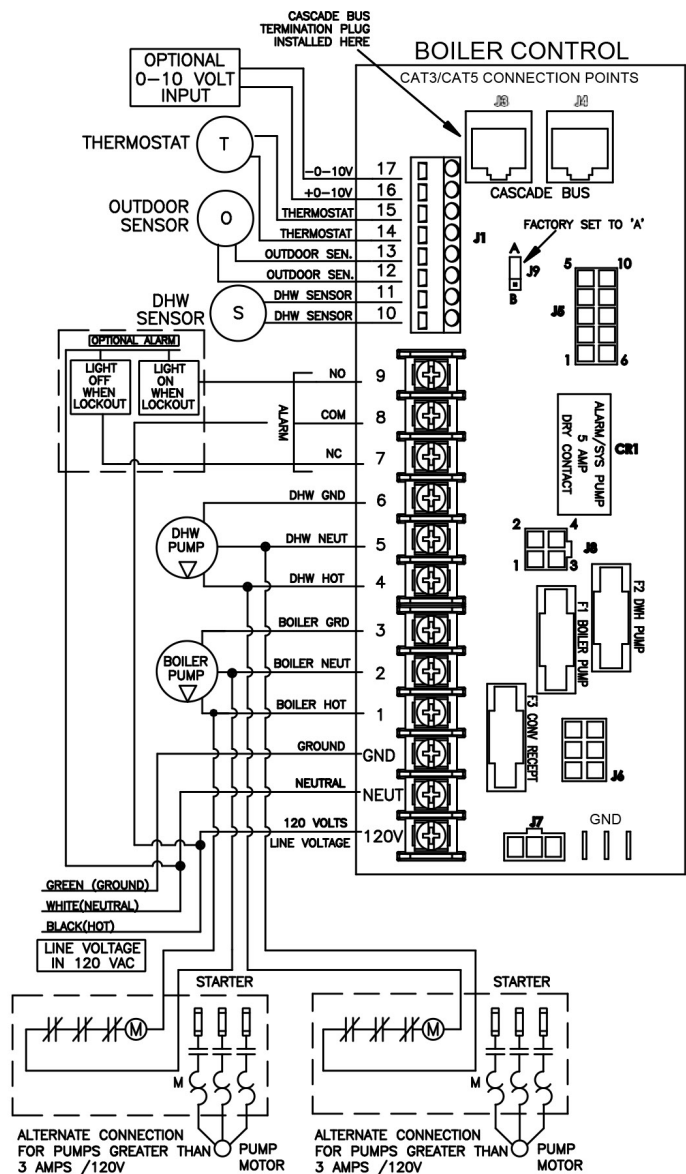

Figure 22 - Control Wiring
NOTE: A termination plug is included in the CAT 3 / CAT 5 Bus Connection Point, labeled J3 in Figure 22. DO NOT REMOVE THIS
1. Connect the incoming power wiring to the line voltage terminal strip in the electrical junction box at terminals 120V, Neutral, Ground (shown in Figure 22).
3. Connect the boiler pump as shown in Figure 22 to the terminals marked 1 – (HOT), 2 – (NEUT), and 3 – (GND). The connections shown are suitable for a maximum continuous pump draw of 3 amps at 120 volts. If the pump requires more current or voltage than the 120 volts supplied, an external motor starter or contactor will be required.
The control includes a dry contact alarm output. This is an SPDT circuit, rated at 5 amps at 120 volts. This contact can be used to activate an alarm light or bell or notify a building management system if the boiler goes into a lockout condition. The circuit between the ALARM COM and NC terminals is closed during normal operation and the circuit between ALARM COM and NO is open during normal operation. The connections depicted in Figure 22 show two 120 volt lights connected to the alarm terminals. One light will be on when the boiler is in normal mode and the other light will be on when the boiler is in lockout mode.
1. Connect the room thermostat to the terminals marked THERMOSTAT in the electrical junction box (see Figures 22 and 25). Alternately, any dry contact closure across these terminals will cause the boiler to run. Take caution to ensure neither of the terminals becomes connected to ground.
2. Connect the indirect sensor (7250P-325) to the terminals marked DHW SENSOR (shown in Figures 22 and 25) in the electrical junction box.
2. Connect a building management system or other auxiliary control signal to the terminals marked 16, 0-10 VOLT + and 17, 0-10 VOLT – in the electrical junction box (shown in Figure 22). Caution should be used to ensure that the 0-10 VOLT + connection does not become connected to ground.